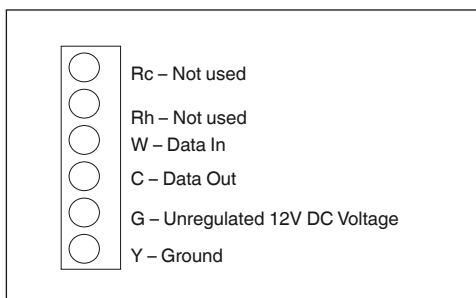

Fig. 3 - Terminal Designations
8. Match and connect equipment wires to proper terminals of the connector blocks (see Fig. 3). Refer to wiring diagram for more details.